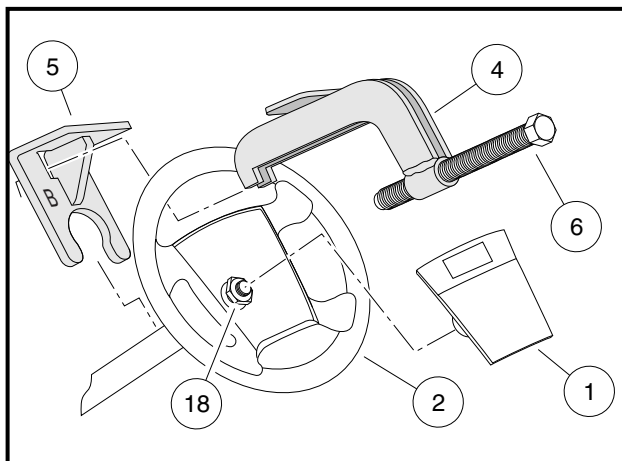

Figure 7-1 Steering Wheel Puller
- 7.1. Place the puller anvil (4) through the top opening of the steering wheel (**Figure 7-1, Page 7-1**).